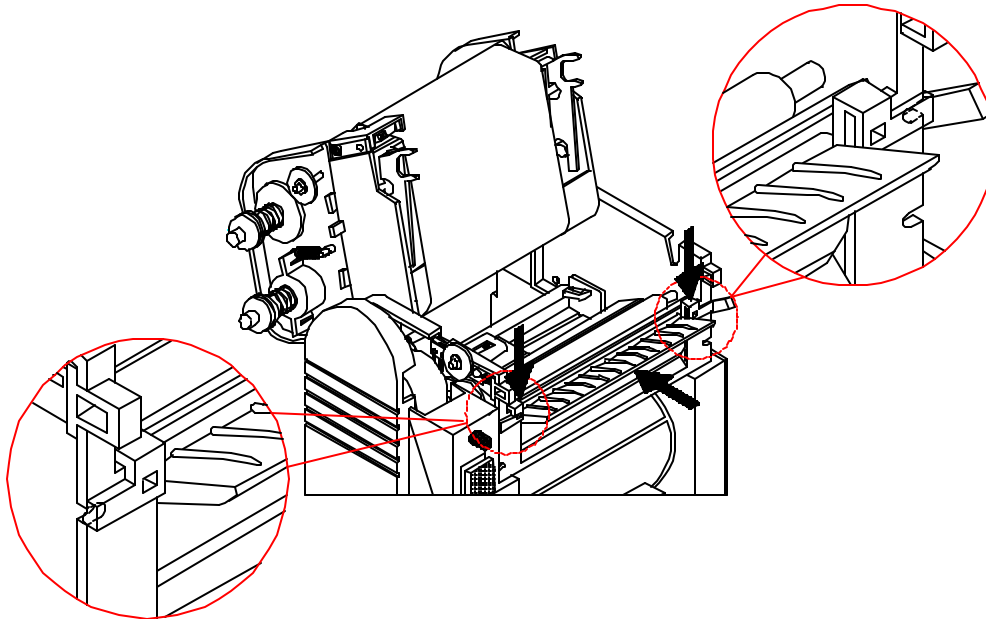

Fig. 2.5.4
13. Refer to the figure 2.5.4, follow the 3-arrow position and direction to gently insert the strip bracket bar until hear the click sound (figure 2.5.4 is a part of zoom out to show the strip bracket bar correct position).